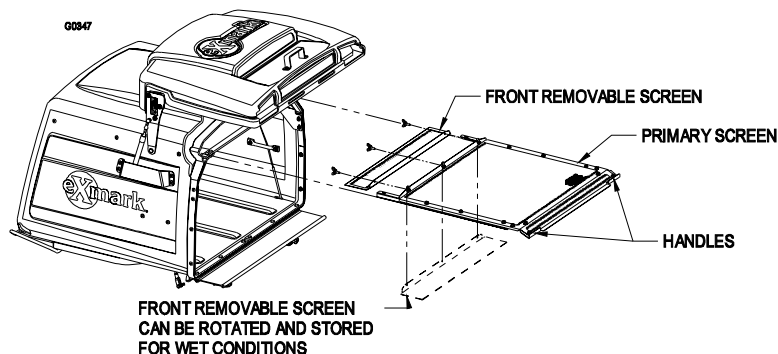

FIGURE 2
a) Screen may be removed by firmly lifting screen handles. See Figure 2.